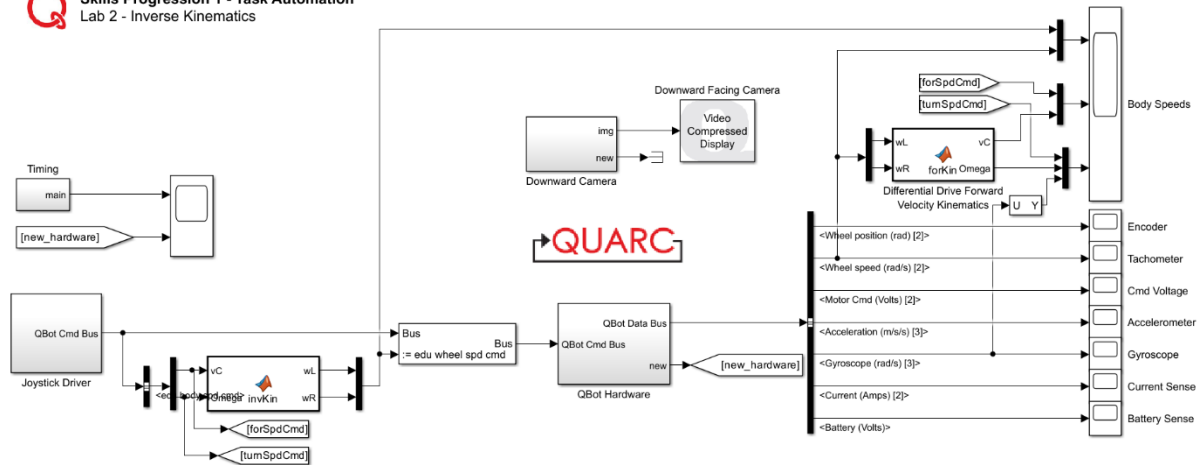

Figure 1. Inverse Kinematics Simulink Model
4. Open the Simulink Model `inv_kin.slx`, as shown in Figure 1. Configure the model so that it can be deployed to the QBot Platform: